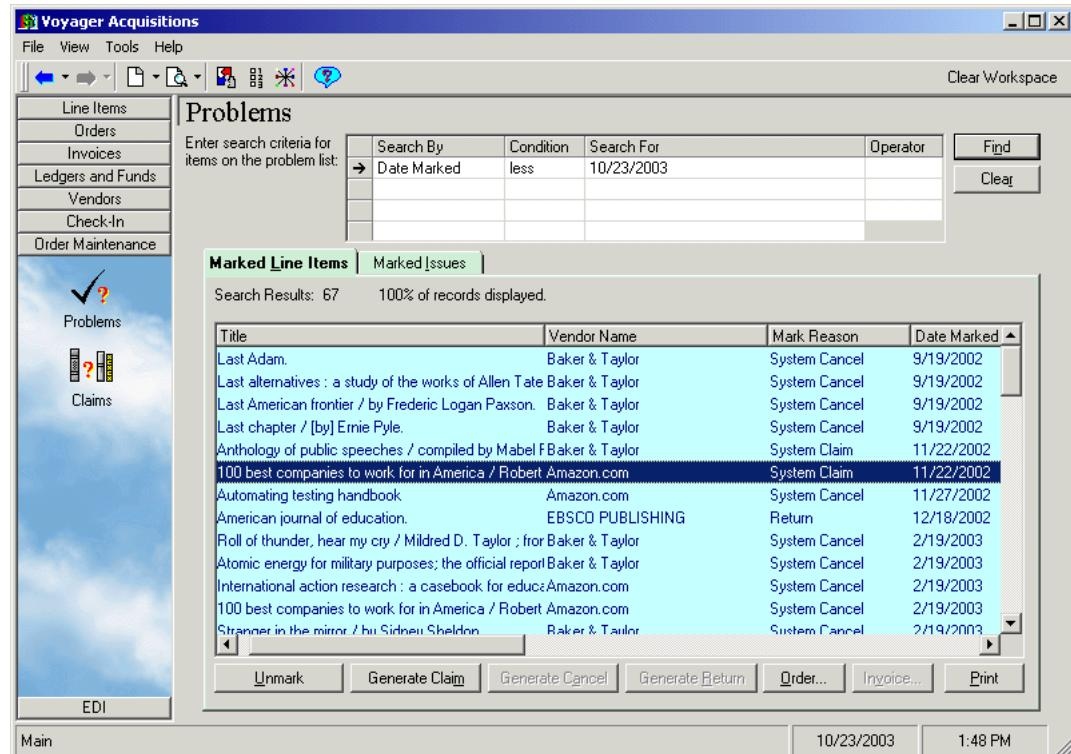

Figure 2-103. Problems workspace search results
7. To process an item, select it and click the wanted action button (see Figure 2-103). See Problems Workspace on page 11-17.